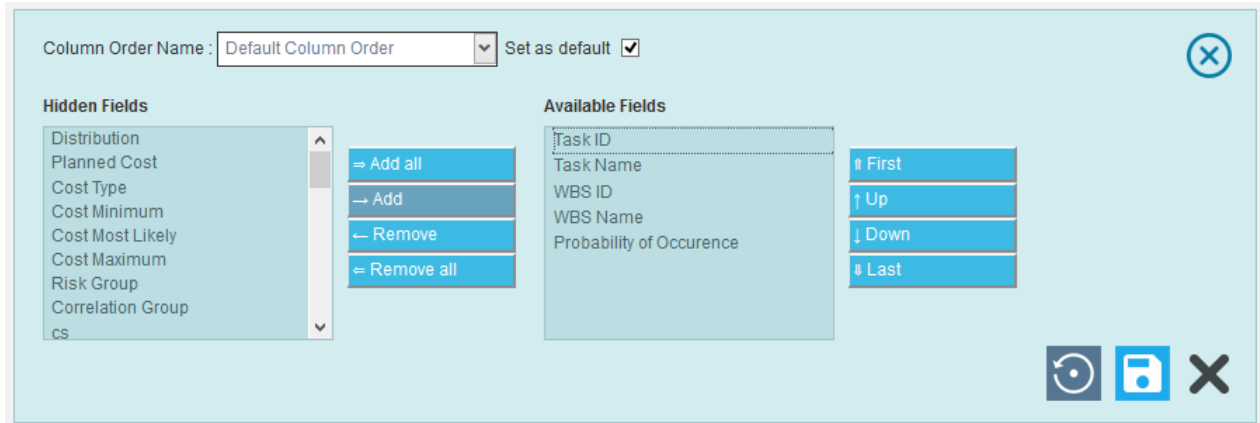

Figure 2.15
4. Click **Remove** button to hide the selected field from Group View table, or click **Add** button to show in the table. (Figure 2.15)
5. Click **Remove All** button to hide all the fields from the table, or click **Add All** button to show all the fields in the table. (Figure 2.15)
6. Click **Save** icon to save the changes done. (Figure 2.15)
7. Click **Reset** icon to reset the fields to the previous positions. (Figure 2.15)